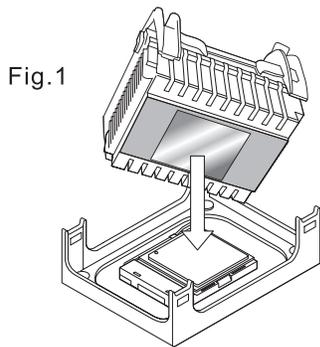
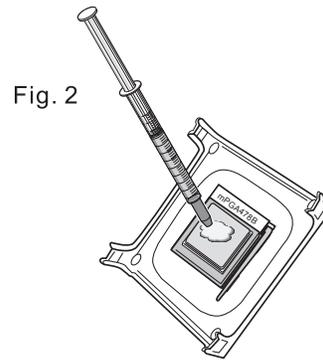

Fig. 1
Fig. 2
4. After installing the CPU you may need to apply the Thermal Interface Material (TIM) to the top of the installed CPU (Fig. 2). The TIM is supplied in an applicator with the boxed Pentium 4 processors. The TIM secures the Fan/Heatsink to the CPU. However, if the Fan/Heatsink already has a patch of TIM on its underside, you won't need to apply additional TIM to the CPU (Fig. 1).
The heatsink may have thermal interface material attached to the bottom as shown in Fig.1, or you may need to apply the thermal interface material using a syringe as shown in Fig.2.